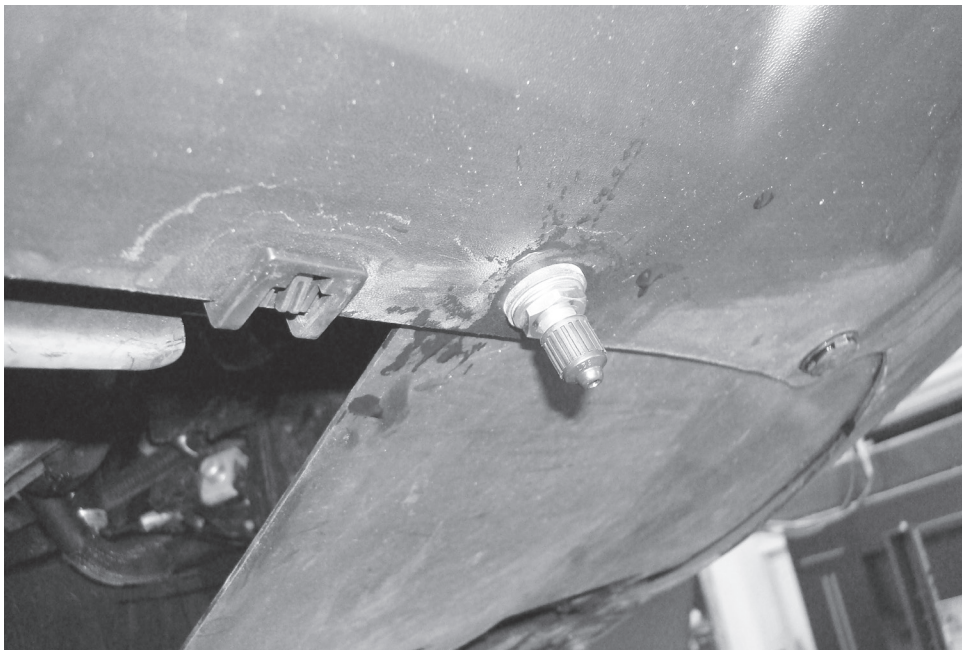

Fig. 16
- Fig. 16 shows the inflation valve installed.